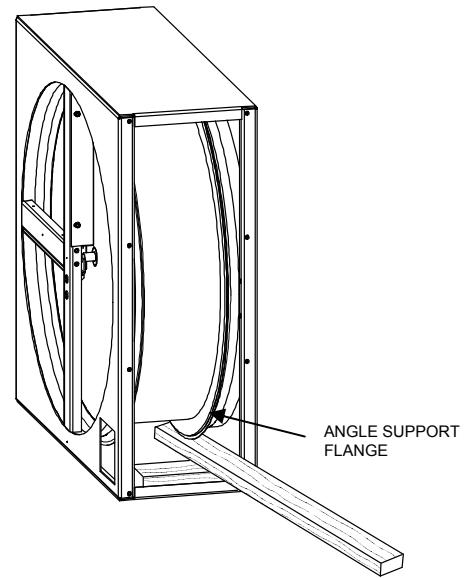

Figure 13 - Raising the Rotor
10. Refer to Figure 13. From the end of the cassette (where the motor was located), place a 4 x 4 wood block on the floor of the cabinet. Place it under the same side of the rotor that you removed the face seals from. Position it underneath the angled, edge support flange that runs around the perimeter of the rotor.